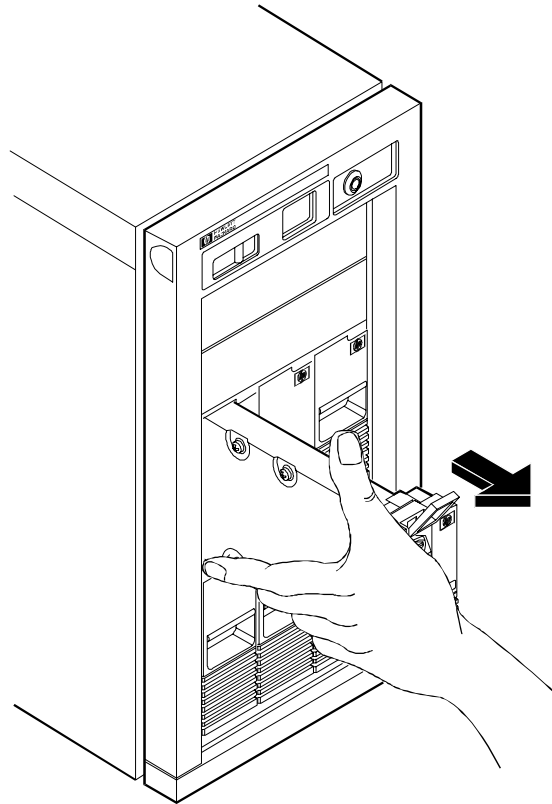

Figure 3-3. Removing the Hot-Swap Disk Module
2. Support the bottom of the module as shown in Figure 3-3. Slowly pull the module straight out. *Do not allow the hot-swap disk module to fall.*